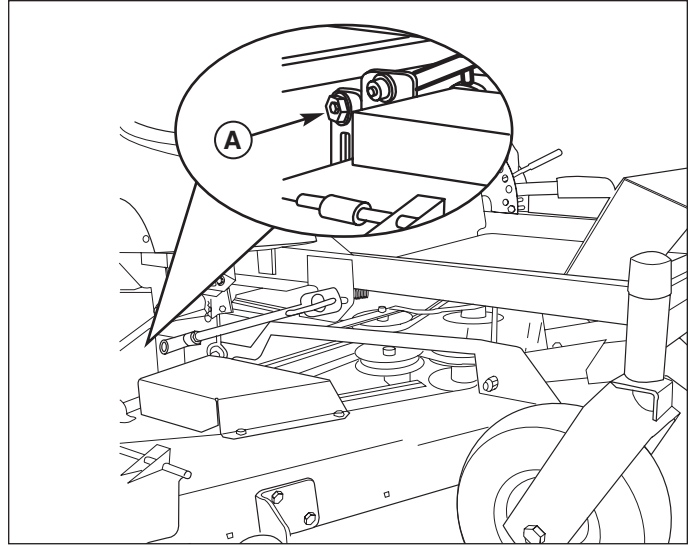

Figure 22. Roller Bar Leveling
5. Locate the roller bar leveling eccentric and locknuts (A, Figure 22). Loosen the locknut and turn the eccentric to raise or lower a side. When the correct level is achieved, hold the eccentric with a wrench and tighten the locknut. Repeat step 4 if necessary.